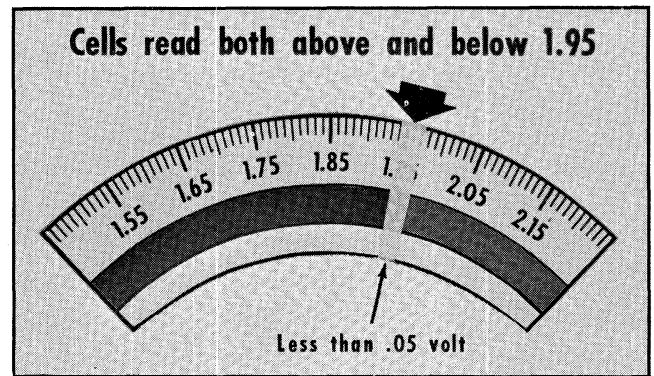

Fig. 11-6 Good Battery - Requires Charging
b. Good Battery — Requires Charging (Fig. 11-6)